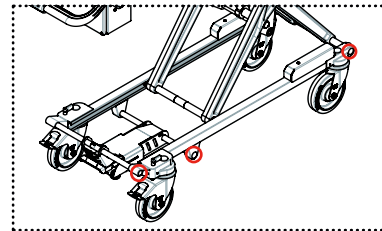

FIGURE 1
- Check the tightening torque of the screws on both sides of the lower structure (see Fig. 1). The tightening torque must be 19.11 Nm.